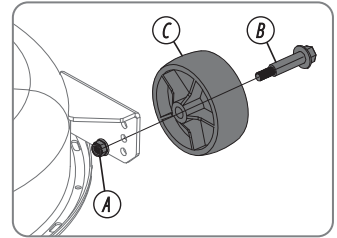

Fig. 63
3. Remove the nut (A), the bolt (B), and the anti-scalp wheel (C), Fig. 63).